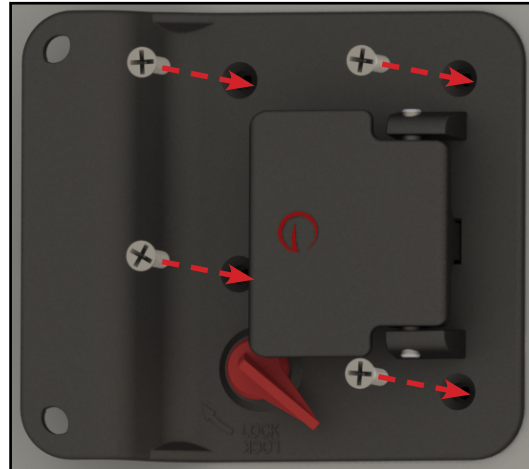

Fig.14
6. Loosely install hardware to secure into place (Fig. 14).